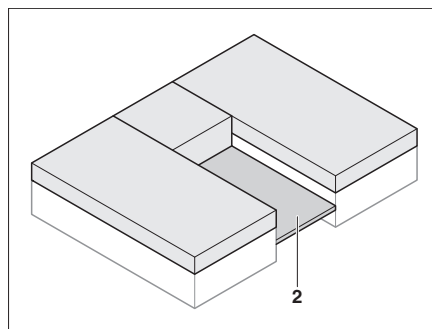

Fig. 83 Pull out slatted frame
- Pull out the slatted frame (Bild 83,2) between the single beds.